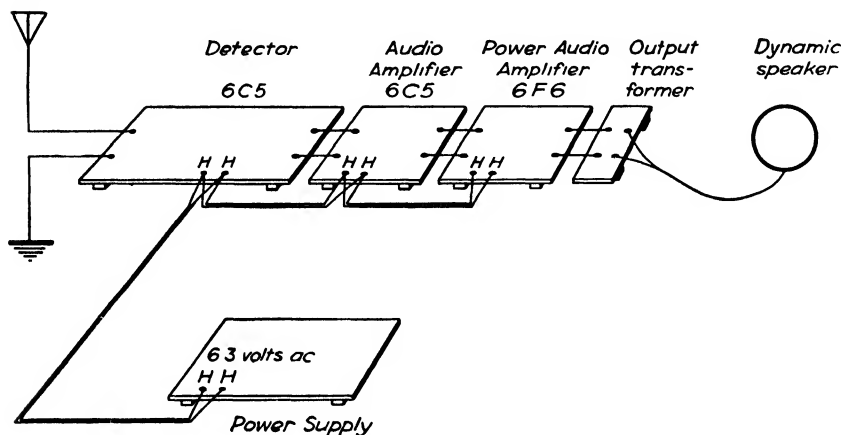

FIG. 319. Attach wires and test the heater-filament supply.
Step 2. Run the heater wires from the power supply to each set board. Turn on the power supply to see if all the tubes heat up. Then turn it off (see Fig. 319).